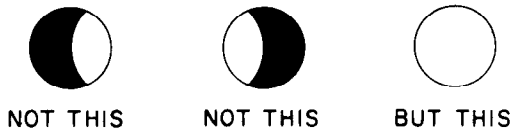

Figure 3
3. Scanner must have unobstructed view of both pilot and main flames (Fig. 3).